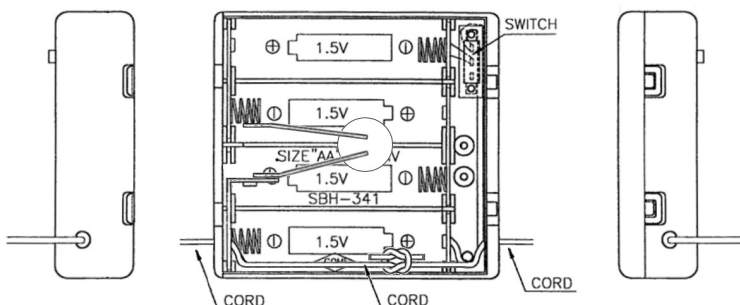

Fig 4C - LED
- 11 - Position the LED in the hole with long lead toward the spring. [Fig 4C]
- 14 - Solder the short lead to the bent connector and the long lead to the spring. [Fig 4C].